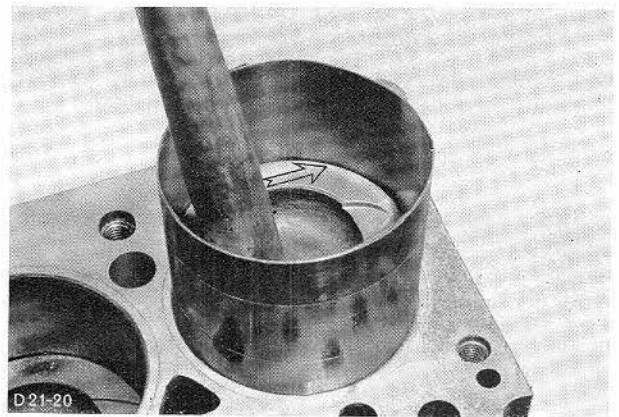

Fig. 53. Fit piston using a ring compressor.
50. Compress piston rings with a standard tool (ring compressor), Fig. 53. Slide piston into cylinder using a hammer handle, guiding connecting rod on to big end journal by hand.
The 'front' marking on piston (arrow, notches, etc.) should point towards front cover, Fig. 53.